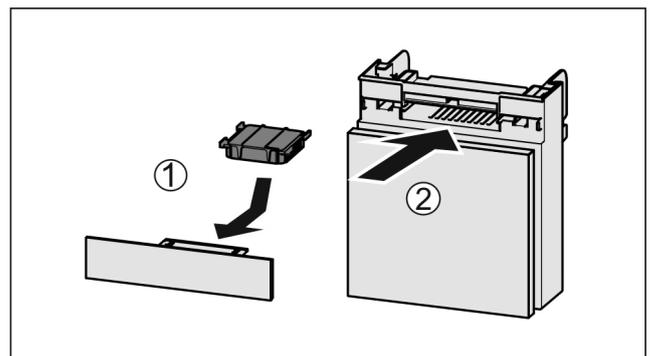

Fig. 73
- ▶ Insert the carbon filter as shown in the diagram Fig. 73 (1).
- ▶ Push the compartment in Fig. 73 (2).